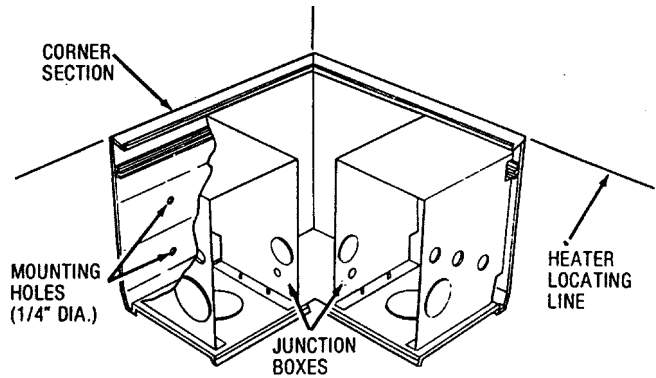

Figure 5
3. Drill mounting holes (recommended dia. 1/4") through the back housing of the section. We recommend locating these holes inside the junction boxes (Figure 5).